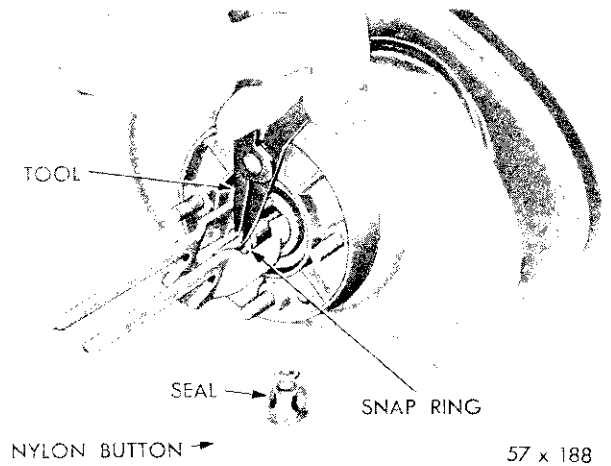

Fig. 53—Removing or Installing the Snap Ring
(7) Using pliers, Tool C-3229, remove the snap ring that retains the valve rod in the piston, as shown in Figure 53.
(12) Compress the spring, then install the snap ring in the groove of the valve rod, using pliers, Tool C-3229, as shown in Figure 53.
(13) Install the valve rod seal over the end of